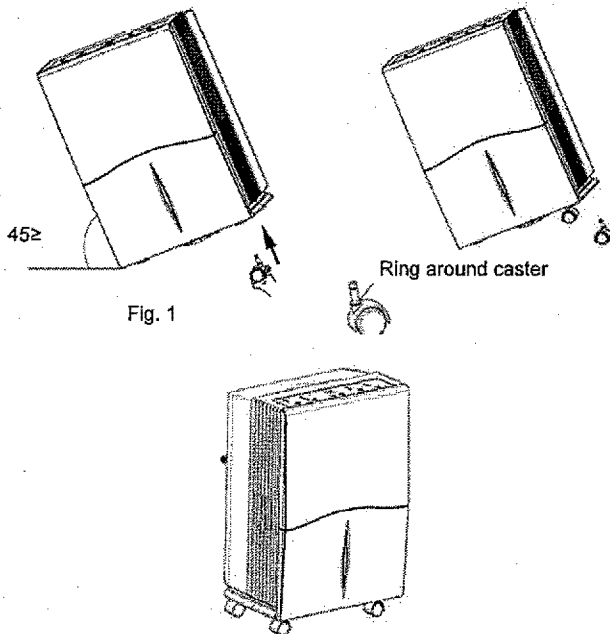

Fig. 1
1. Tilt the dehumidifier no more than 45° and forcibly insert the casters. Make sure the ring around the caster is flush against the bottom of the dehumidifier (Fig. 1)